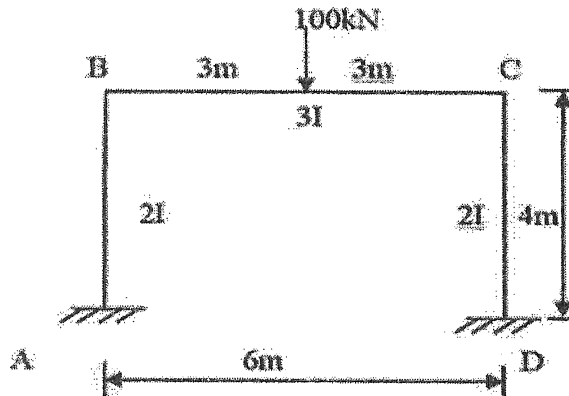

Fig.5
7. Analyse the frame loaded as shown in figure 5 by Kani's method and sketch the bending moment diagram.